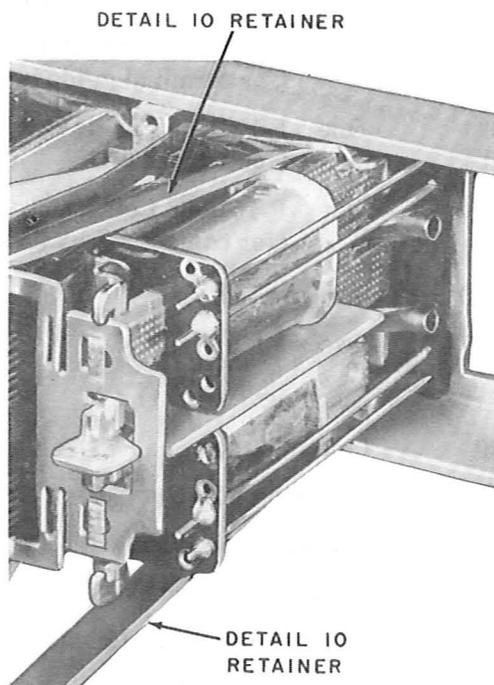

Fig. 22—Detail 10 Retainers in Place
3.46 Apply long-nose pliers to the clamping spring as close to the relay mounting bracket as possible and squeeze end of clamping spring to the flange or the mounting plate. Insert Detail 10 retainer between clamp spring end and mounting bracket as shown in Fig. 22. Use one retainer for retaining top of clamp spring and a second retainer for retaining the bottom of the clamp spring. This provides accessibility for the new coil, and core and armature assembly.